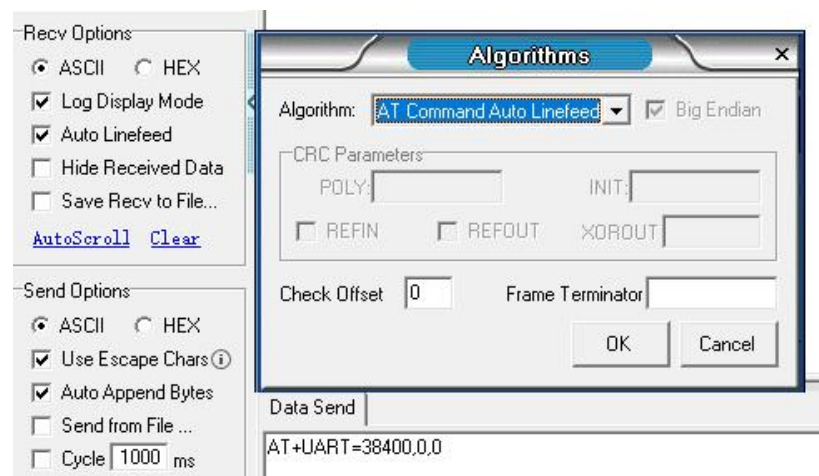

Fig.15
2.5 The other Settings are shown in Fig. 15. Some versions need to set additional bits, and the AT instruction automatically returns